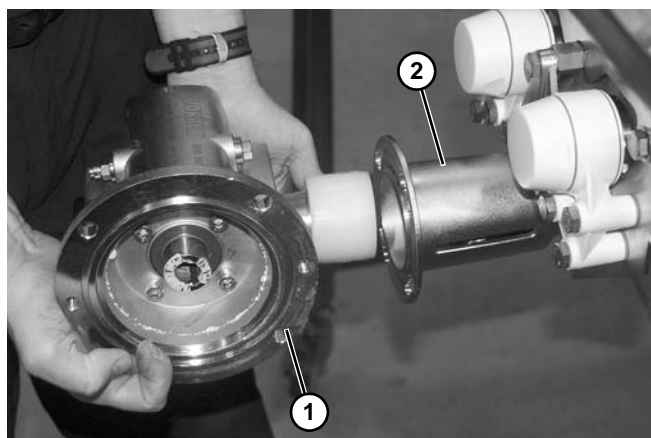

Figure 86
7. Rotate and remove gear reducer (**Figure 86, item 1**) from the motor mount (**Figure 86, item 2**).